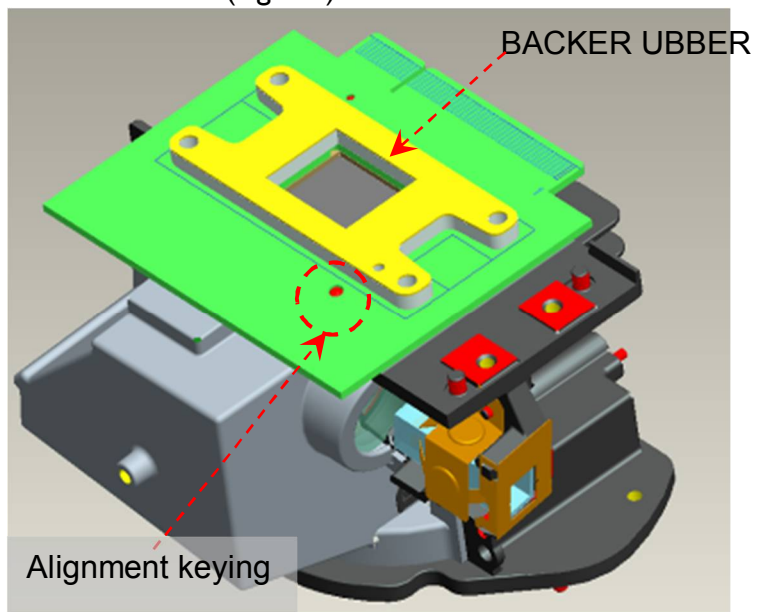

Fig. 5-5
D. Assemble & BACKER RUBBER (Fig. 5-5)